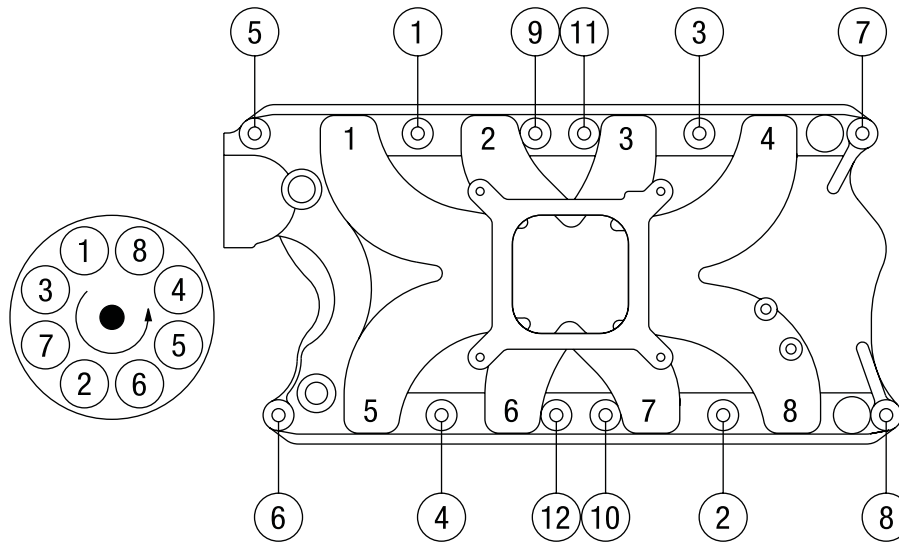

Figure 1 - 351-W Ford Torque Sequence
4. Torque all of the manifold bolts in two steps by the sequence shown in **Figure 1** to 18-20 ft/lbs.